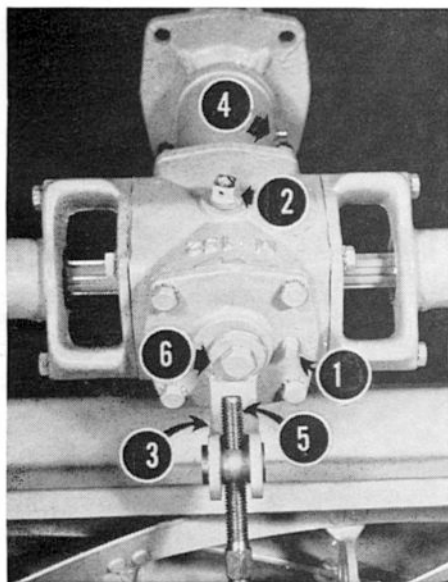
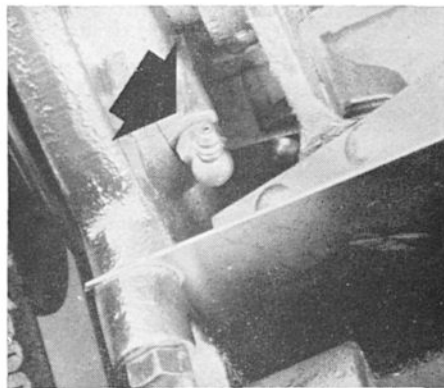

Figure 18
Figure 19
Check the Gear Housing oil level every four hours of operation by removing the Oil Level Plug, 1 in Figure 18. If oil runs out, the oil level is all right; if not, oil must be added.
To add oil, remove the Oil Filler Plug, 2 in Figure 18, and pour through the Oil Filler Hole until oil begins to run out the Oil Level Hole (too much oil will cause over-heating and consequent gear damage). Replace both Plugs before resuming mowing.
Change oil in the Gear Housing at least annually. To drain, remove the entire Strut Casting, 3 in Figure 18; replace after the oil has drained. Add oil as instructed above.
Use General Purpose Grease occasionally in the grease fittings on the Swivel Casting, 4 in Figure 18, and as required in the grease fittings for the Reel Bearings, arrow in Figure 19. It is important to lubricate properly the Reel Bearings, as the grease forms a water seal around each Bearing, preventing rust. Use General Purpose Grease as required in the grease fittings on the Roller Bar.
Turn the Height Adjusting Screw, 5 in Figure 18, clockwise to raise the cutting height; turn it counter-clockwise to lower the cutting height.
1. Loosen the bolt on the front of the Gear Housing, 6 in Figure 18.